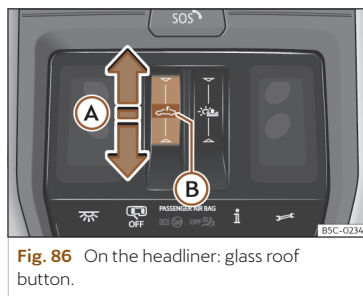

Fig. 86 On the headliner: glass roof button.
- Automatic movement: slide your finger back over the functional area  >>> **Fig. 86** .
- Before approx. 5 seconds after activation of the anti-trap function, slide your finger forward over the functional area ➡ >>> **Fig. 86** (A) and keep pressed until the sunroof is fully closed.